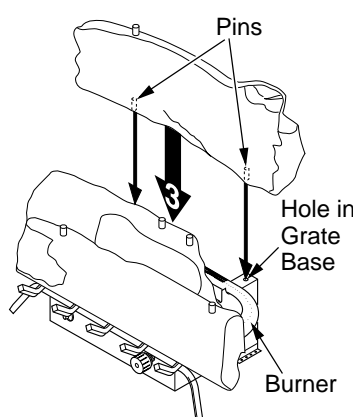

Figure 29 - Installing Rear Log (#3) (CCL3930NTA Shown)
3. Locate pins on the bottom of back log (#3). Slide these pins into the holes in the grate base behind the burner (see Figure 29).